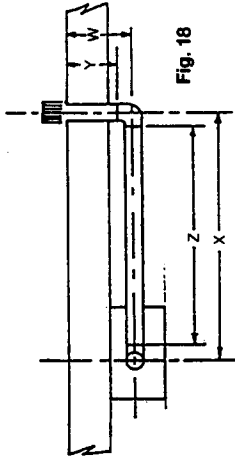

Fig. 18
- 5.5.23 Ensure when siting the flue hole position that the combined distances (Y&Z on fig 18) between the flue elbow on the boiler to the extra bend and from the face of the outside wall to the extra bend do not total more than 3.75 metres.
- 5.5.24 Measure carefully the distance between the centre of the flue bend on the boiler to the centre of the hole through the wall (dimension X fig. 18).
- 5.5.31 Ensure that the flue pipe runs parallel to the wall then carefully measure the distance from the outside face of the wall to the centre of the extra bend (dimension W fig. 18).